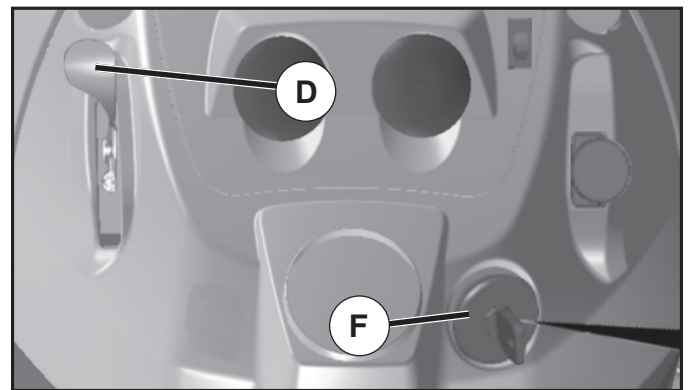

FIG. 6
TO USE THROTTLE CONTROL (D) (See Fig.6)